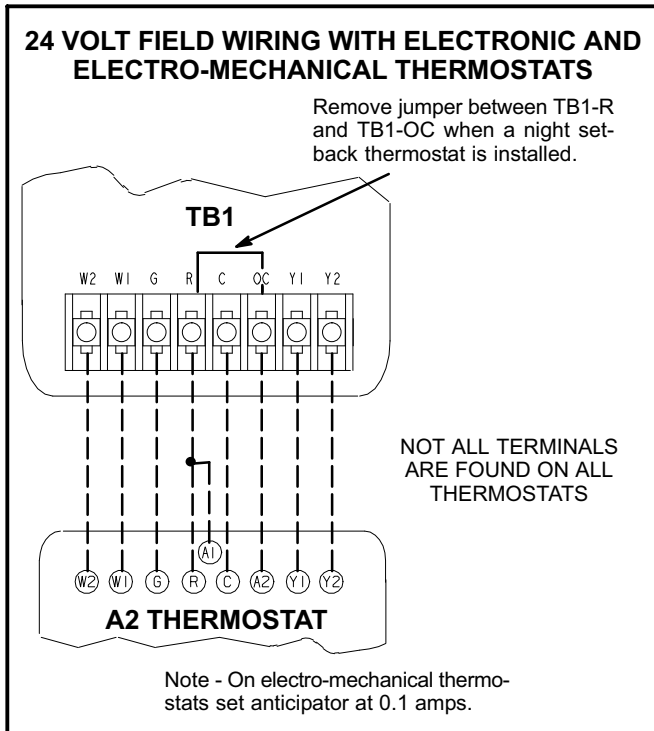

FIGURE 5
- 3- Connect thermostat wiring to TB1 terminal as shown in figure 5 for electro-mechanical and electronic thermostats. If using other temperature control devices or energy management systems see instructions and wiring diagram provided by manufacturer.